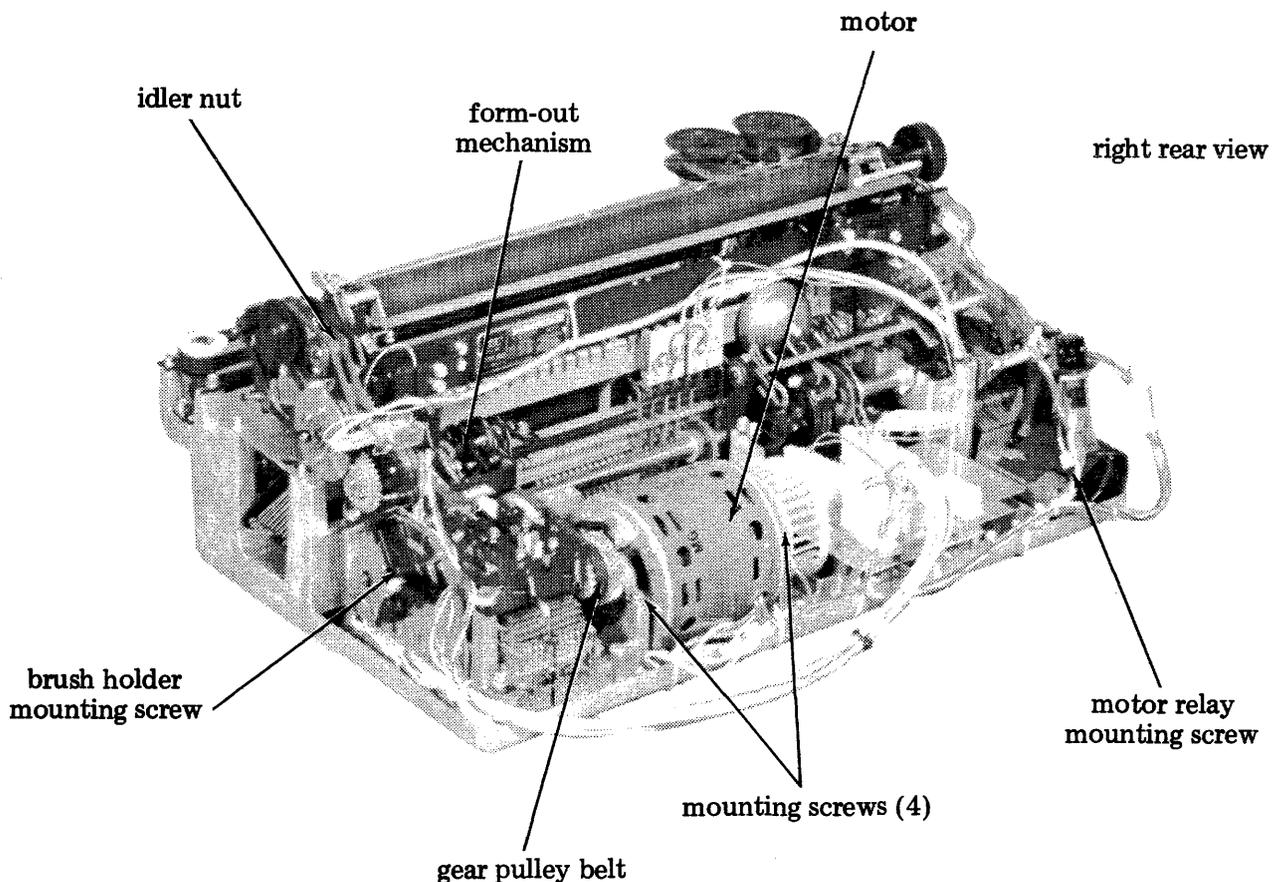

Figure 4 - Motor and Form-Out Mechanisms
- 2.13 Disassemble motor (Figure 4) as follows:
- 2.15 Remove form-out mechanism (Figure 4) as follows: